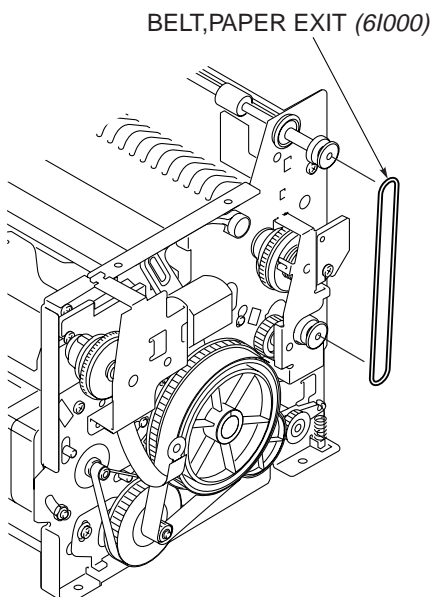

Fig. 3-4-1
(See Figs. 3-4-1 to 3-4-3)
- 2) Remove the "BELT, PAPER EXIT (6I000)". (Refer to Fig. 3-4-1.)